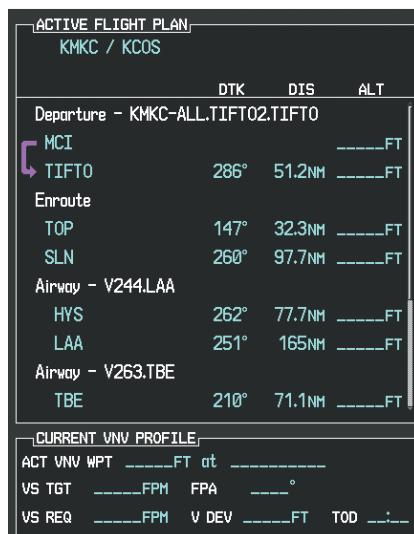

Figure 5-109 TOP Inserted into the Flight Plan
- d) Press the **ENT** Key. TOP is inserted into the flight plan as in Figure 5-109.